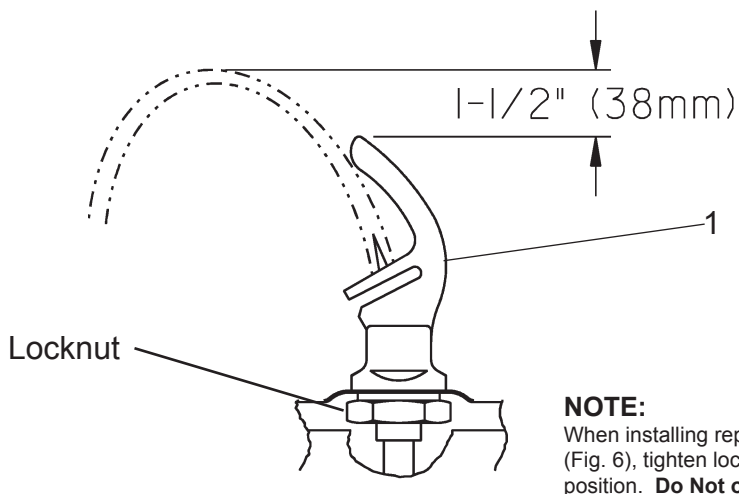

Figure 6 - Bubbler Detail
14. **Check** stream height from bubbler. Stream height is factory set for 35 PSI supply. If supply pressure varies greatly from this, remove push button (Item 5 - Fig. 6) and adjust the screw on the regulator (Item 4 - Fig. 6). To remove push button, remove setscrew from bottom of sleeve (Item 6). Insert a small punch in screw hole and push up while grasping the push button and pull forward removing the push button. Clockwise adjustment will raise stream height and counterclockwise movement will lower stream height. For best adjustment stream should hit basin approximately 6-1/2" from the bubbler. Reassemble the push button by pushing in on button until the push button catches in the sleeve. Reinstall the setscrew (Item 7) in the sleeve (Item 6).